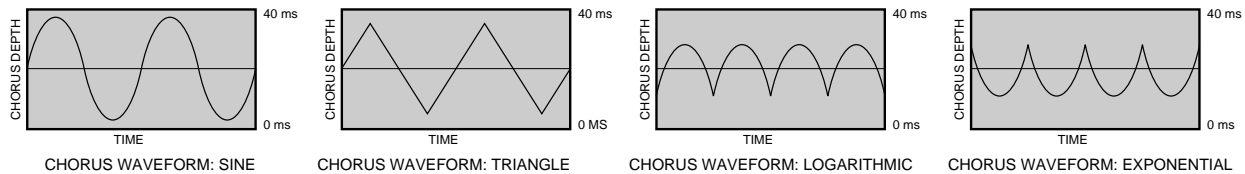

Fig 3-11
**LFO Waveform Type:** Controls the LFO (low-frequency oscillator) waveform pattern of the chorus effect. SINE produces a smooth sine wave-type chorus with even transitions in and out of the turnaround points. TRIANGLE is a linear chorus effect, and ramps the pitch of the wave up and down, with no slowing at turnaround points (your ear will perceive this almost as detuning instead of chorusing). LOGARITHMIC and EXPONENTIAL waveforms are more dramatic in their effect on the signal, producing a bouncy oscillation. See fig. 3-11.
**LFO Waveform Type:** Controls the LFO (low-frequency oscillator) waveform pattern of the flange effect. SINE produces a smooth sine wave-type flange with even transitions in and out of the turnaround points. TRIANGLE is a linear chorus effect, and ramps the pitch of the wave up and down with no slowing at turnaround point. LOGTHM or EXPNTL waveforms usually sound best, but don't be afraid to experiment. See fig. 3-11